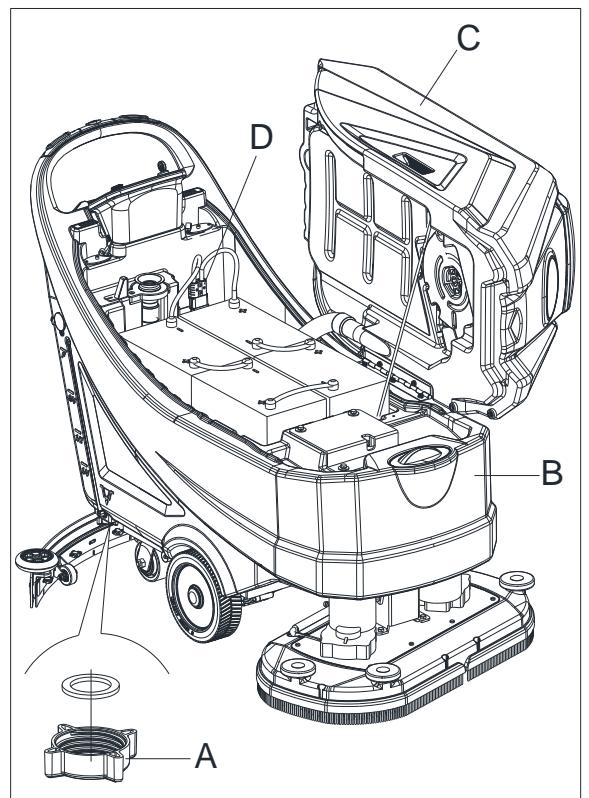

Figure 18
1. Empty the solution tank with the outlet cover (A, Figure 18). After working, rinse the tank with clean water.
4. Empty the tanks (B and C, Figure 18) as shown in the previous paragraph.